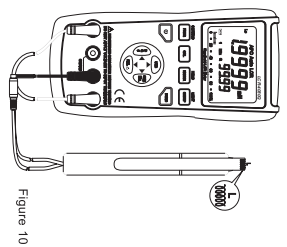

Figure 10
3) Insert the inductor into input terminals or connect the inductor to the meter using the test clamp.(See Figure 10).